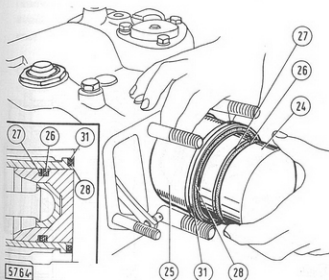

Fig. 214 - Removing Lift Piston and Cylinder
- Take off piston (24, Fig. 214) and cylinder (25).